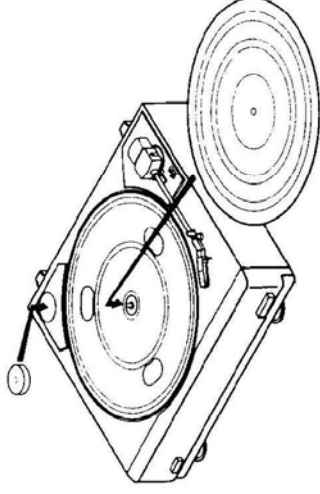

Fig. 2
4. Place the rubber mat to its position. (Fig. 2)
5. Place the 45 rpm adapter to its position. (Fig. 2)